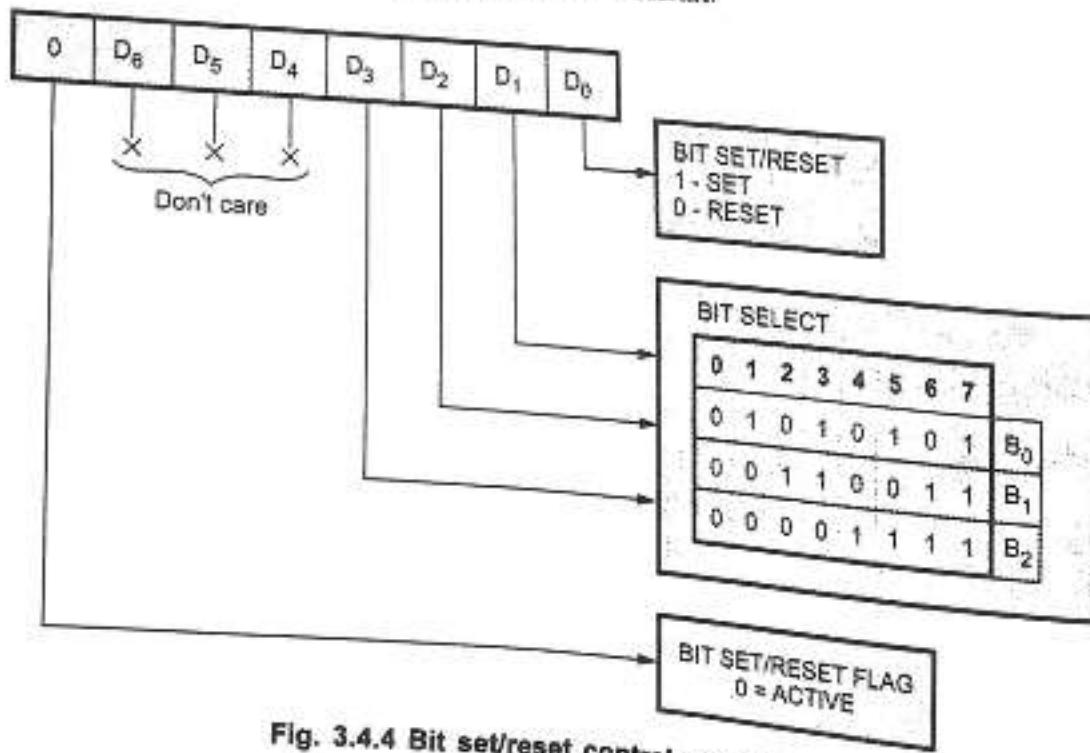

Fig. 3.4.4 Bit set/reset control word format
- Fig. 3.4.4 shows bit set/reset control word format.